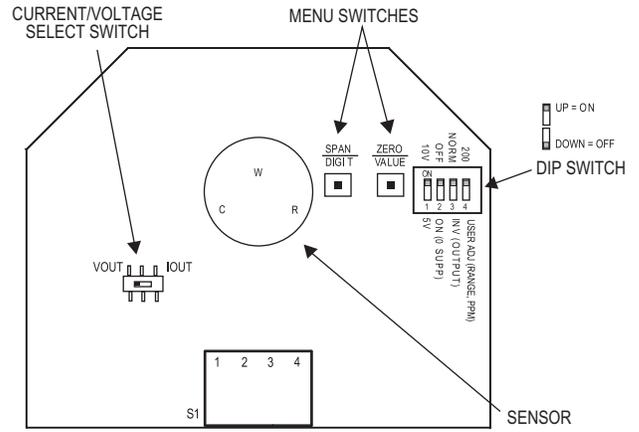

Figure 3
8. Set DIP SWITCH and IOUT/VOU SWITCH as desired. Refer to Figure 3.
To access the current/voltage select switch, remove the cover of the unit. The current/voltage select switch is located on the circuit board as shown in Figure 3. Set the switch to "IOUT" for current, "VOUT" for voltage.
To access the DIP SWITCH, remove the cover of the unit. The DIP SWITCH is located on the circuit board as shown in Figure 3.
1. Remove the cover plugs from the face of the unit and top cover. Locate the sensor, see Figure 3 – the sensor is mounted on three pin sockets. The circuit board is labeled either “CO SENSOR” or “NO₂ SENSOR” underneath the sensor.